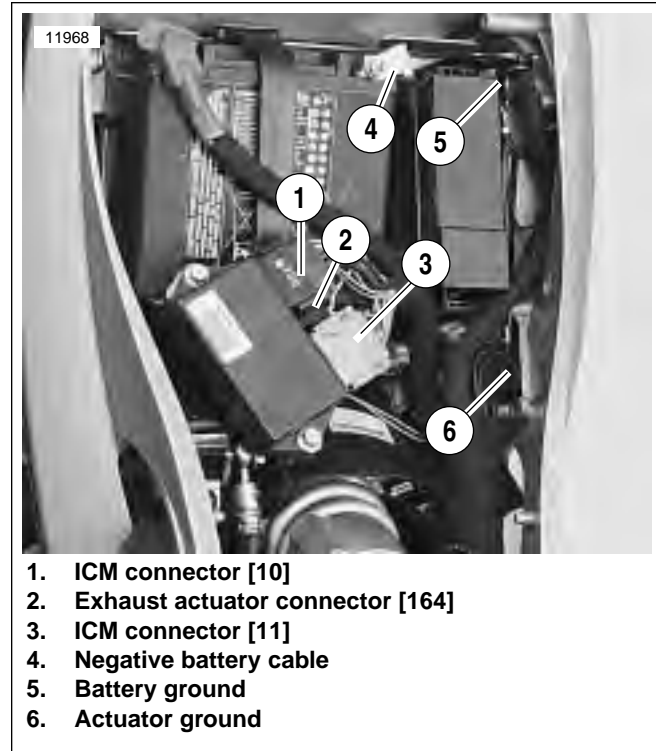

Figure 7-90. Harness and Cable Routing
3. See Figure 7-90. Remove negative battery cable (4) from battery. See 7.11 BATTERY.
6. Remove the exhaust actuator ground (5).
7. See Figure 7-90. Separate exhaust actuator harness connector [165] (2) at main harness.
- d. Add free play to interactive exhaust cable (4), loosen jam nut and remove cable from bracket. See 7.6 INTERACTIVE EXHAUST SYSTEM.